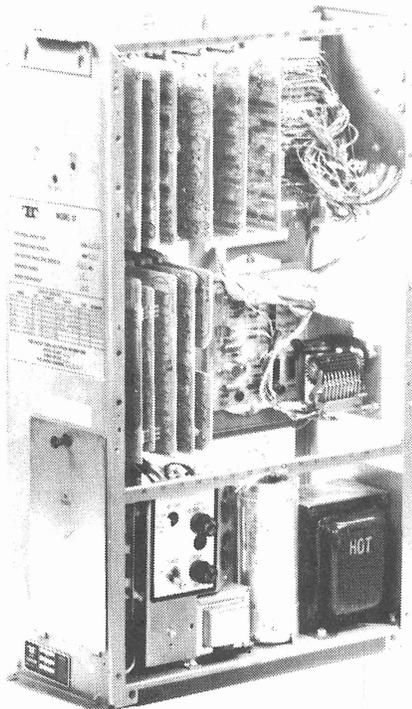

Figure 6 - Electrical Service Unit
2.21 The electrical service unit (Figure 6) consists of a chassis assembly which mounts into the lower part of the knee well of the table. The chassis assembly has a multivoltage power supply, copylight transformer, motor control relay, fuses, duplex ac receptacle, a wiring field, and circuit card connectors. A set of circuit cards selected for a given arrangement provides the set logic (Table B). The cards mount into the card connectors.